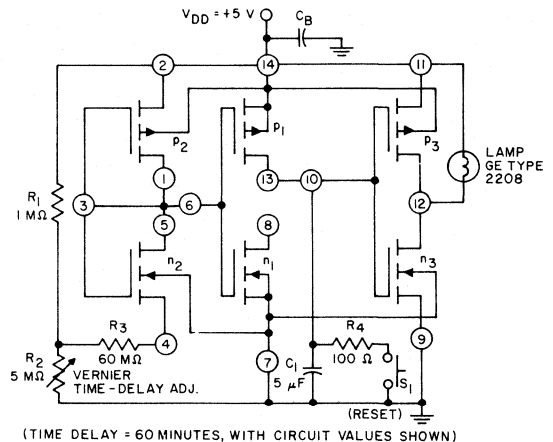

Fig. 26— Analog timer using CA3600E.
The CA3600E is useful in the design of analog timer circuits. A typical circuit is shown in Fig. 26. For purposes of explanation, let it be assumed that capacitor C_1 initially is in a completely discharged condition; terminal 10, therefore, is initially at ground potential and transistor N_3 is non-conductive. The circuitry at the left of terminal 10 provides a source of constant-current flow through P_1 to charge capacitor C_1 increasingly positive with respect to ground. After the passage of time (T), capacitor C_1 is charged sufficiently in the positive direction so that transistor N_3 is driven into conduction by its gate and the lamp is lighted to signify the end of the time-delay period. The circuit is reset by momentarily closing switch S_1 to discharge capacitor C_1 through R_4 . Resistor-divider network R_1, R_2 establishes the supply voltage to a constant-current network comprised of resistor R_3 and the series-connected COS/MOS pair N_2, P_2 , biased for linear operation by resistor R_5 as previously described. This combination is connected to the gate terminal (No. 6) of
A variant of this complementary current mirror is used in the analog timer circuit shown in Fig. 26. Transistors P_2 and N_2 are series-connected together with a 60-megohm resistor to establish their drain current at 5 nA. The potential developed across terminals 1 and 2 also appears as the gate-source voltage for transistor P_1 , thereby establishing a mirror-current source of 5 nA at terminal 13 to charge capacitor C_1 linearly. In this circuit, the "mirrored" current-sink available at terminal 8 (transistor N_1) is unused. This type of current-mirror configuration is exceptionally stable with temperature variations.